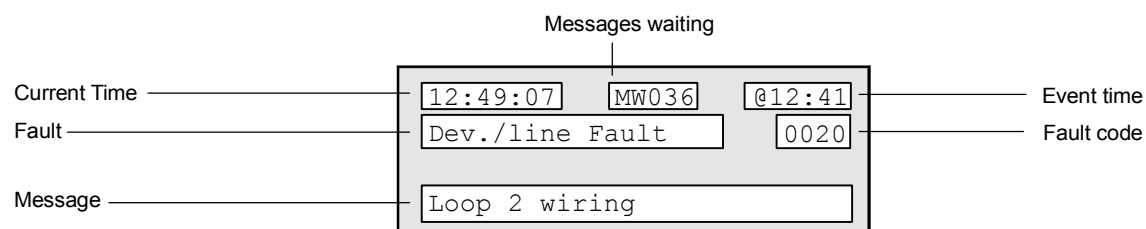

Figure 11: Typical fault message
The message in (Figure 11) indicates that the current time is 12:49 (PM) and the queue contains thirty-six messages. The Expander Loop Module has a short circuit or open on its SDC, which occurred at 12:41. Table 3 provides the meanings of other messages that appear on the 2-LCD.